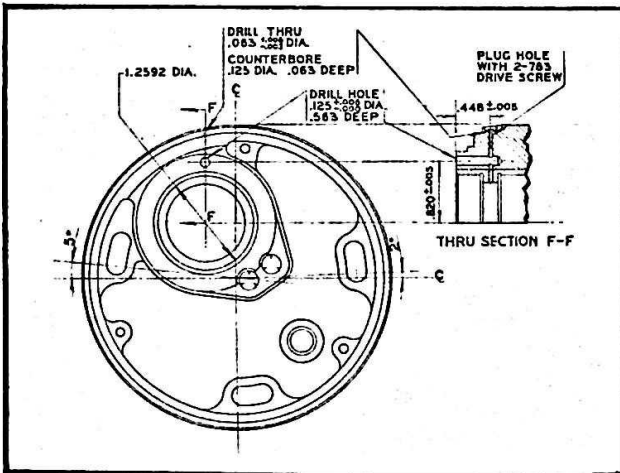

Figure 15 - Location of Ventilation Holes in the SF9LN-4 Adaptor
(1) Under certain conditions of altitude and temperature, the lubricant used in the cam shaft ball bearings of the subject type magnetos may leak through the seal of the rear bearing and get into the breaker compartment. Should this occur, there is a possibility of the grease reaching the contact point with resultant fouling and burning.
(2) Observation indicates that troubles of this nature are caused by a slight pressure which is built up in the space between the two cam shaft bearings at high temperatures or altitudes. The pressure forces the lubricant through the seals of the bearings.
(3) The pressure can be eliminated by venting the space between the bearings, and it has been found that this stops the grease leakage. Current production magnetos of the subject types have vent holes drilled in the adaptors for this purpose.
(4) It is recommended that subject type magnetos now in service be modified at the overhaul to incorporate this improvement. This is easily accomplished by drilling two small holes in the adaptor. Locate and drill the holes as shown in figure 15.